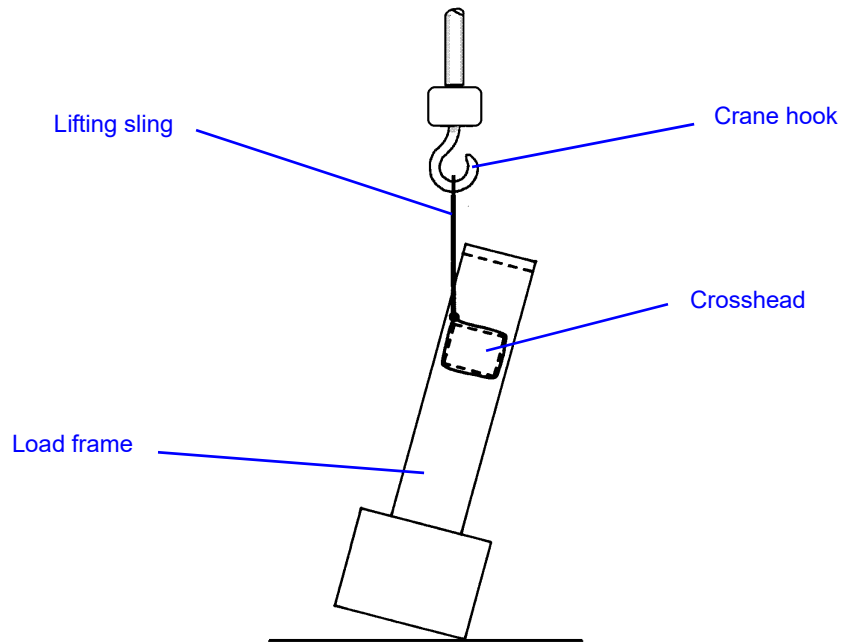

Figure 3-4. *Lifting Load Frame with a Crane*
1. Attach the two lifting slings to the crosshead and secure them to the crane hook as shown in Figure 3-4 on page 3-13. If you use chains in lieu of lifting slings, wrap protective material around the crosshead to protect the crosshead from scratching and marring.